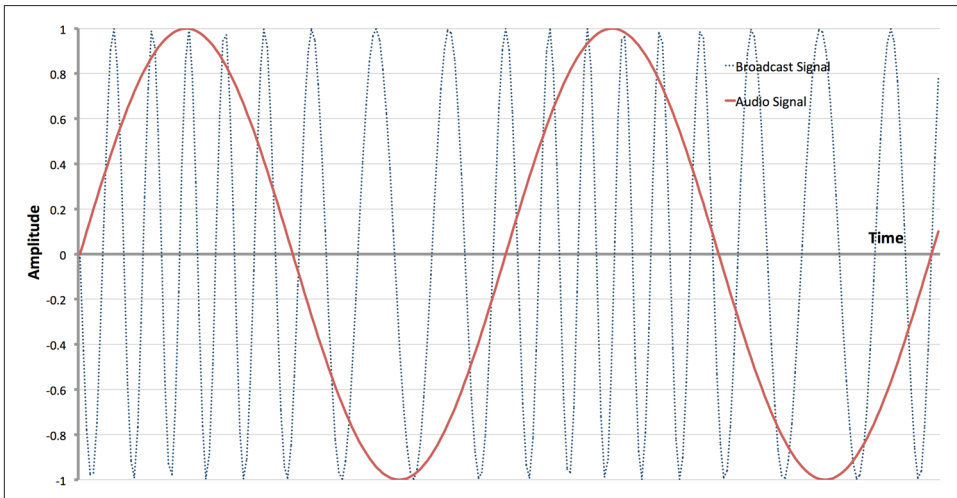

Figure 19-4. Frequency Modulation
Frequency modulation (FM) improves on AM by varying the frequency of the carrier rather than its amplitude. This improves the quality of the sound being broadcast, as the frequency is immune from changes due to atmospheric conditions or movement of the receiver. Figure 19-4 shows how an audio signal would be used to modulate a carrier.